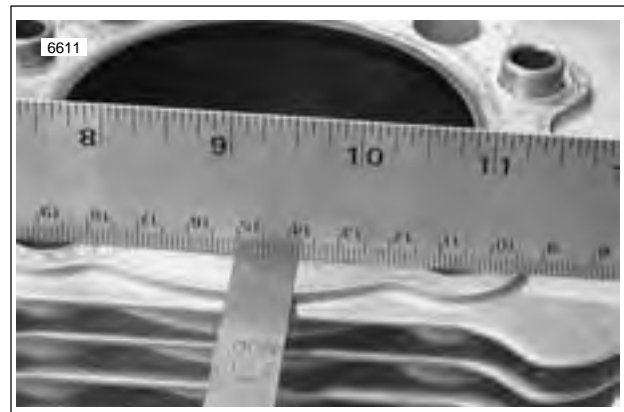

Figure 3-69. Checking Gasket Surfaces
- See Figure 3-69. Check cylinder head gasket surface for flatness.